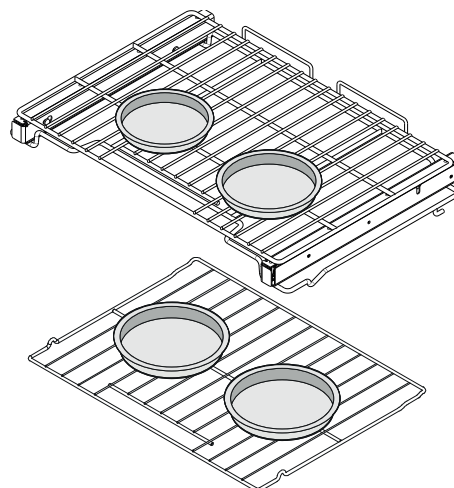

Fig. 16 Pans spaced for convection baking for cakes.
- For baking cakes use the following rack positions and place bakeware as shown in Figure 16.